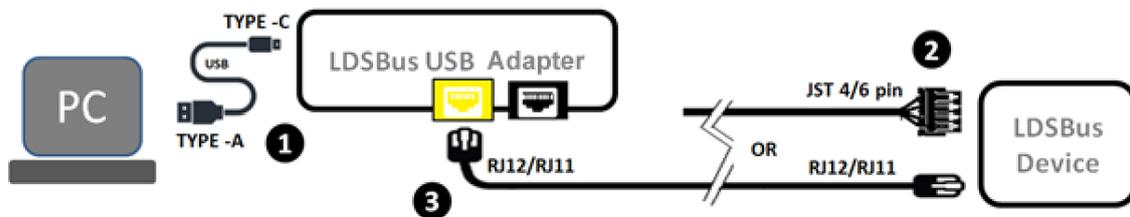

Figure 3 - LDSBus Device Configuration - Connection Diagram
3. Attach the other end of the cable to the LDSBus USB Adapter as shown in Figure 3.